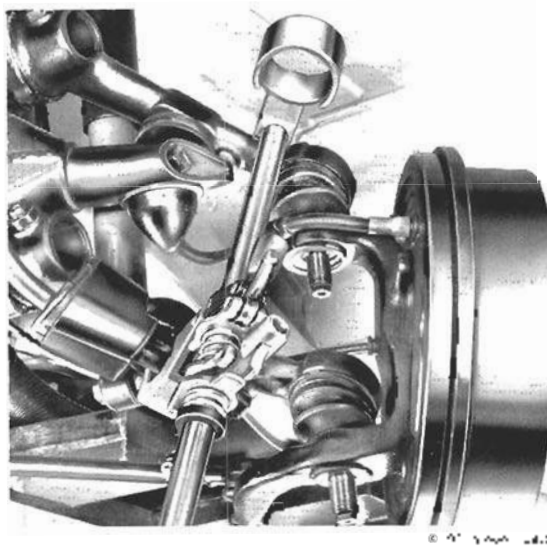

Fig. 6-5. Special tool used to lift torsion arm.
- Using a tool similar to the one shown in Fig. 6-5, lift the lower torsion arm until the upper ball joint stud enters the steering knuckle.